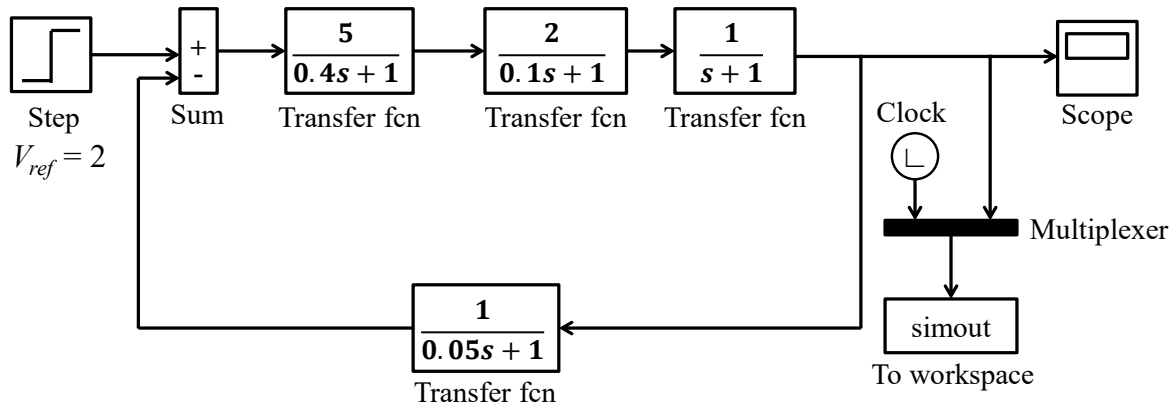
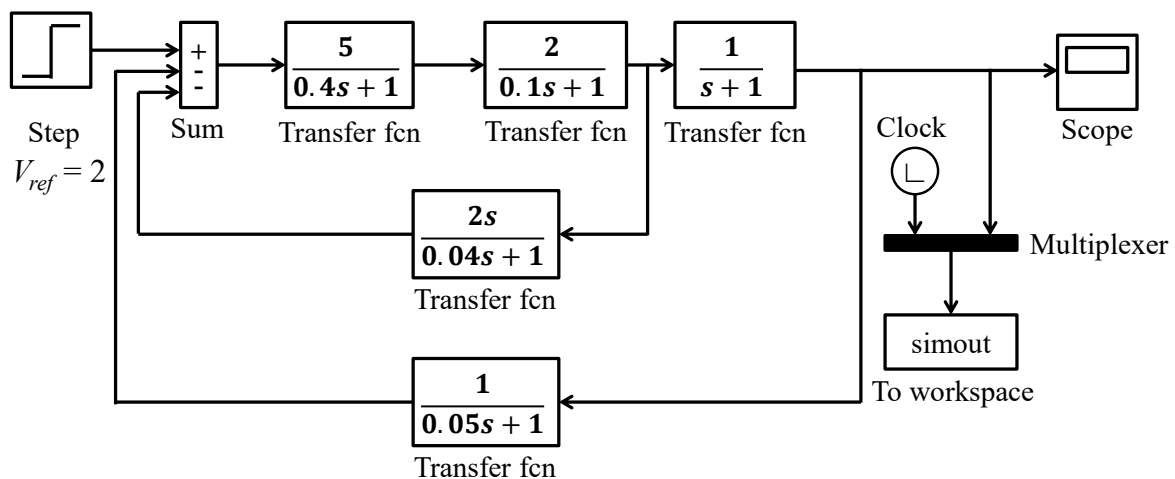

Figure 1: Control system model in Simulink
Figure 2: Control system model with a stabiliser in Simulink
1. Construct Figure 1 using Simulink and then, simulate the model to obtain its step response curve.
4. Continued from the Simulink model in Figure 1, insert a controller block (called stabiliser) as shown in Figure 2. Then, obtain its step response curve.
Q1. Back to the Simulink model in Figure 1, insert a 'PID controller' block in the system at appropriate location. Configure the PID parameters (Proportional, Integral and Derivative) by trial-and-error method. Write down the values of the PID parameters that gives the best system performance. Compare and discuss the step response of this control system (PID controller) with the system in Figure 1 and Figure 2.